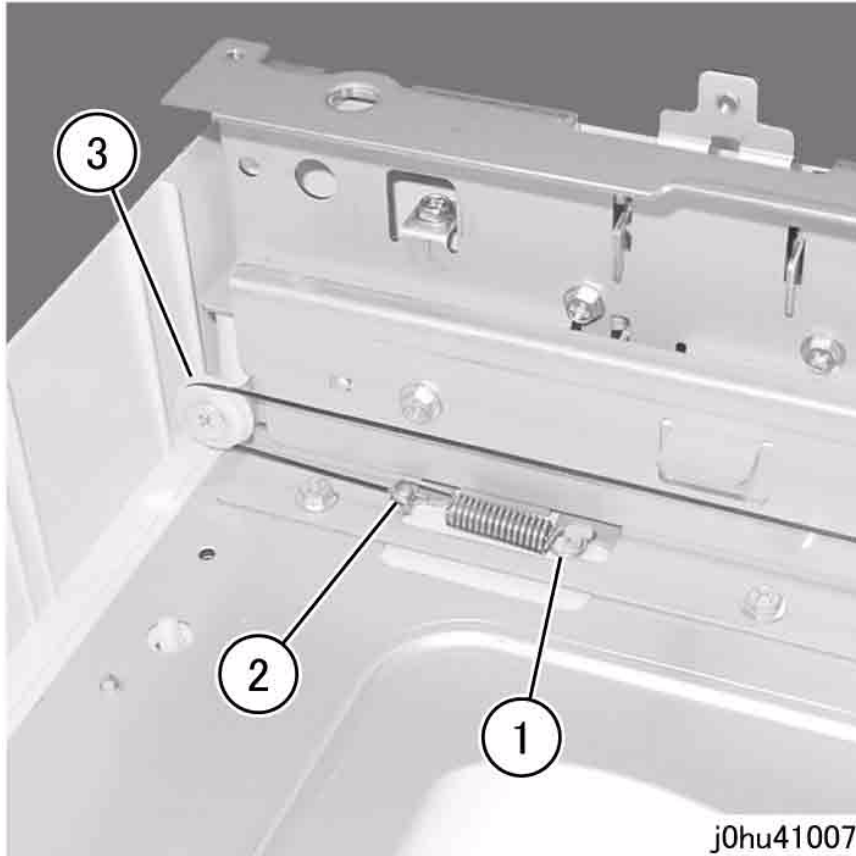

Figure 7 Disconnect Black Carriage Cable
9. While maintaining tension on the Carriage Cable (black) at the rear left side, disconnect it (Figure 7).